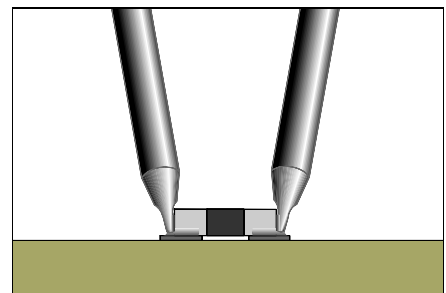

Figure 1: Place the tweezer tips in position. When the solder melts, lift the component off the PC board.
3. Place the tweezer tips in contact with both ends of the component. When the solder melts, lift the component off the PC board. (See Figure 1).